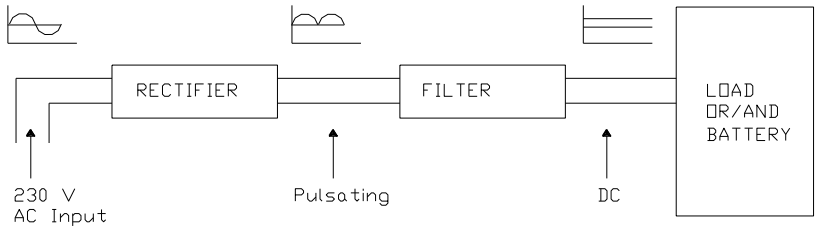

Figure A1
Basically battery charger is a rectifier circuit attached with a filter circuit in output. Rectifier is a device which converts Alternating current (AC) into pulsating Direct Current (DC). Refer figure A1, a simple block diagram is shown. AC is first rectified by rectifier and then pulsating DC is filtered by filter circuit. The output of this filter can be used as a direct supply to load or charging of batteries or both.